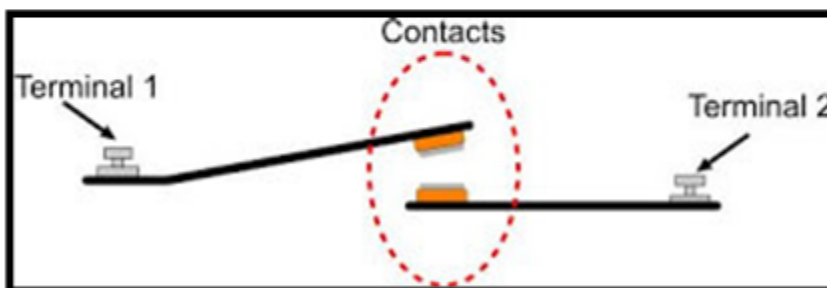

Figure 2.4: The relay contacts
- b. The operation of the contact is similar to that of a simple switch or button. As shown in Figure 2.4, consider the contacts as a pair of metals.